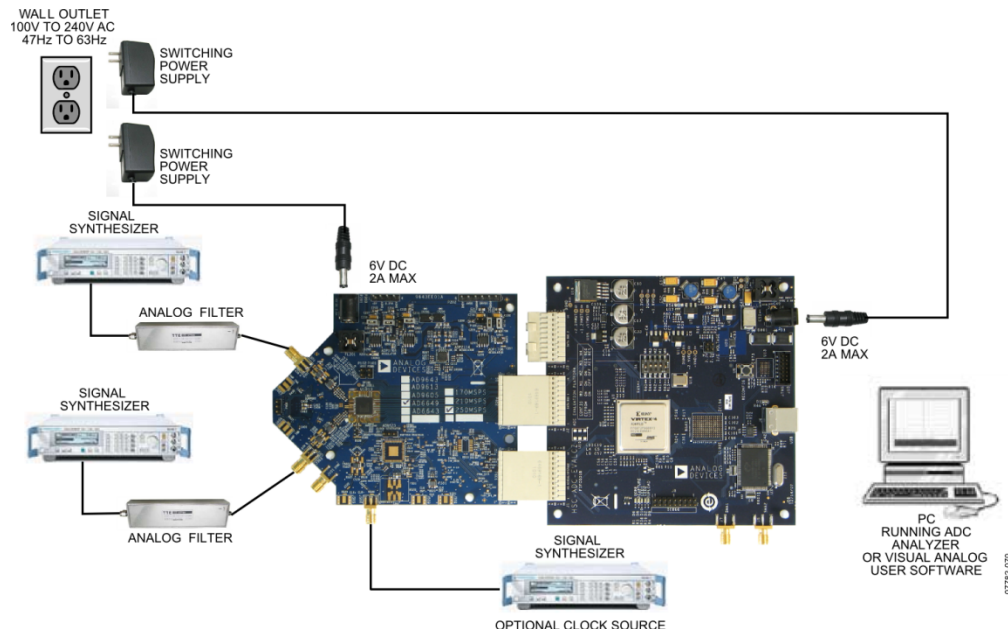

Figure 1: AD6643 Evaluation Board with HSC-ADC_EVALCZ Data Capture Board
1. Connect the AD6643 evaluation board and the HSC-ADC-EVALCZ board together as shown in Figure 1.
9. Next open the SPI Controller software. If prompted for a configuration file, select the configuration file titled AD6643spiR03.cfg. If not, check the title bar of the window to see which configuration is loaded. If necessary, choose "Cfg Open" from the "File" menu and select one of the configuration files named above. Note that the CHIP ID(1) field may be filled whether the correct SPI Controller configuration file is loaded or not.
11. Set the DCO Clk Delay Enable checkbox in the FLEXOUTPUT DELAY(17) panel on the ADCBase0 tab as shown below. In addition, set the DCO Clk Delay register to the '600ps